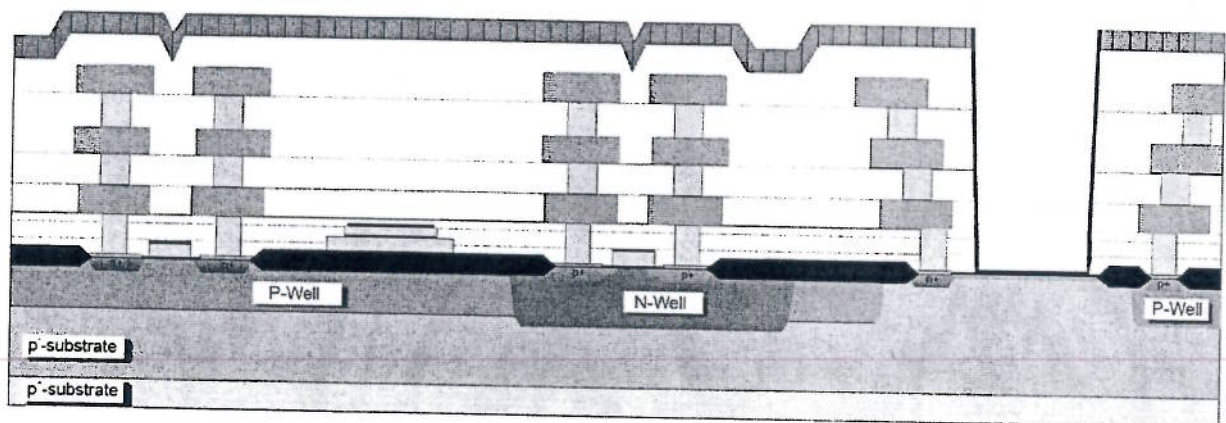

Figure 2.1
- The cross-section of commercially available 0.35 μ m 2P3M CMOS technology is shown below in Figure 2.1.